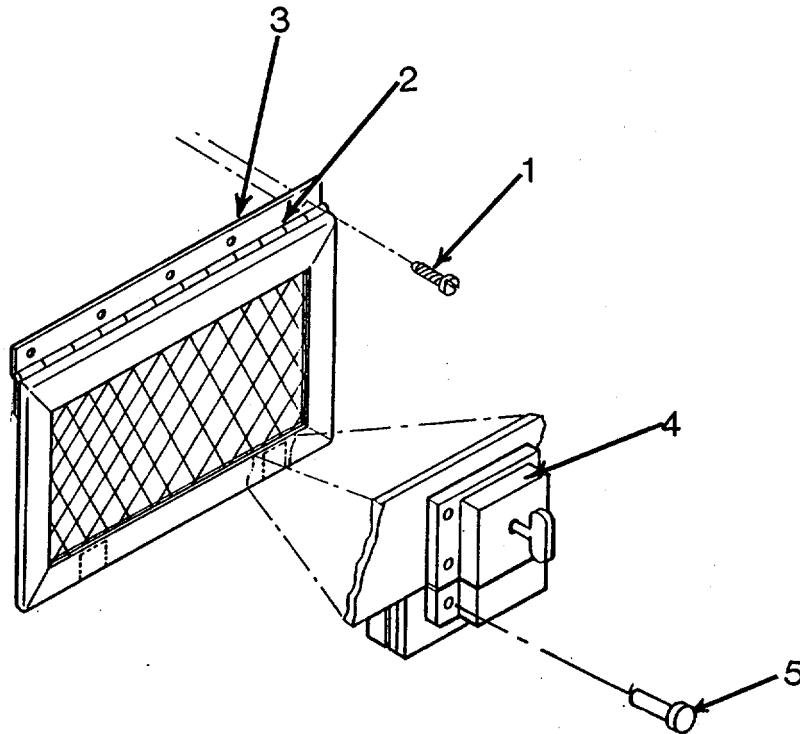

Figure 4-13. Front Wall Vent Assembly
- d. Repair by replacing front wall vent assembly. (Figure 4-13.)
- (1) Remove self-tapping screws (1) along top of vent assembly hinge (2).
- (2) Using a flat-tip screwdriver, carefully pry vent assembly away from AC housing front wall (3).
- (3) Align replacement vent assembly hinge (2) along hinge line and secure in place with five self-tapping screws (1).
- e. Repair by replacing front wall vent assembly door latch. (Figure 4-13.)
- (1) Using an electric drill, drill out rivets (5) in latch and remove latch (4).
- (2) Install replacement latch (4) using blind riveter and pop rivets(5).